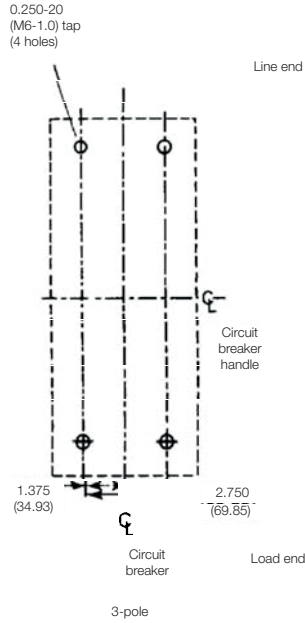
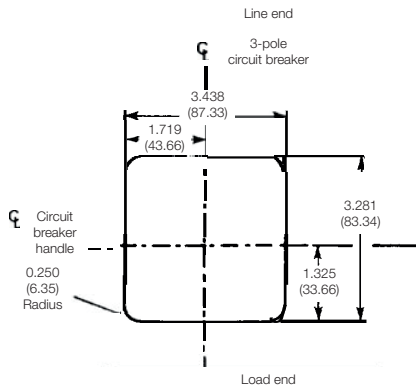

Figure 3: 3-pole circuit breaker mounting bolt drilling plans
Figure 4: circuit breaker escutcheon cutout dimensions for 3-pole circuit breakers
- a. For individual surface mounting, drill mounting panel using the drilling plan shown in Figure 3. For panel board mounting, only load end support mounting holes are required. For dead front cover applications, cut out cover to correct escutcheon dimensions, see Figure 4.